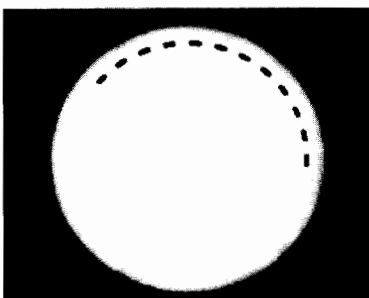

Fig 3-5. Spinning top image of a two pulsed unit using a 60 Hz mains supply
- A **0.1 sec exposure** will produce **12 spots** (see Fig 3-5).